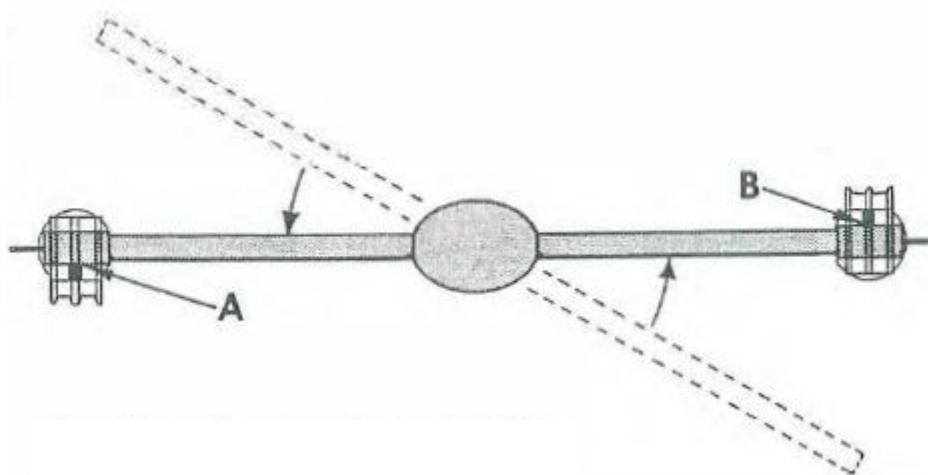

Figure 10: Blade Tips hit both stops "A" and "B" simultaneously
- 2.1.1. The blade tips must hit the stops in the jaws simultaneously. See **Figure 10**. Misalignments can be corrected by tilting the jaw insulator stacks with the jack screws.
- 4.6. The Mounting Positions and Proper Blade Openings are shown in **Figure 10**